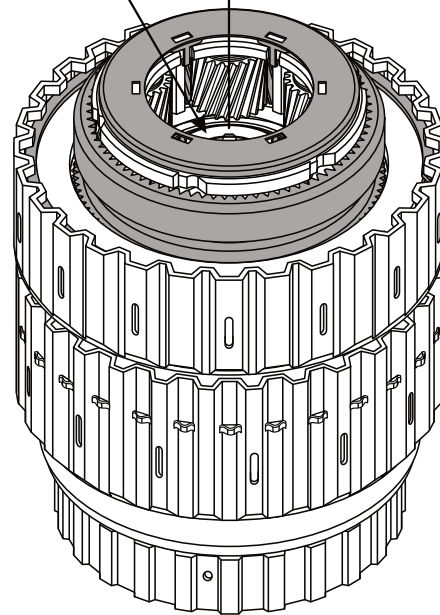

Figure 148
6. Install the proper sun gear and shell assembly, as shown in Figure 148, by rotating back and forth until fully seated.
Note: Ensure that number 12 thrust bearing is in place, as shown in Figure 148, before installing sun shell.